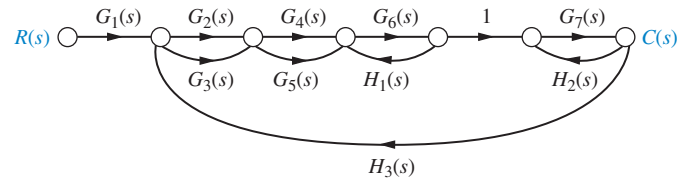

FIGURE I-5.7
8. Using Mason's rule, find the transfer function,  $T(s) = C(s)/R(s)$ , for the system represented by Figure I-5.7. [Section: 13.5]